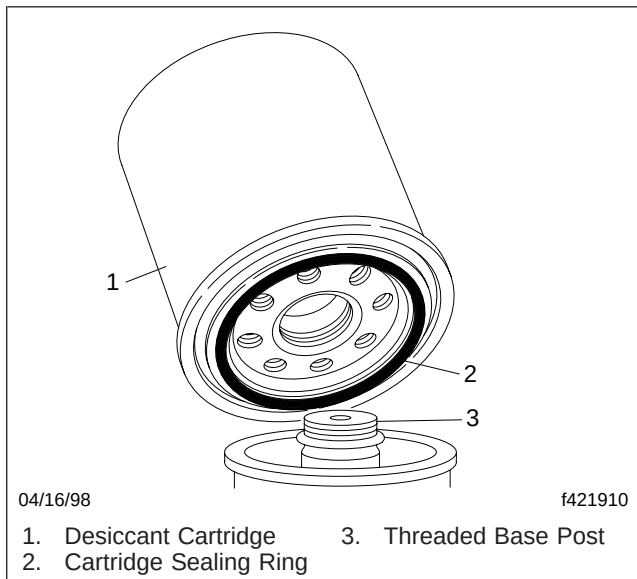

Fig. 8, Desiccant Cartridge Replacement
3. Using a strap wrench or equivalent, loosen the desiccant cartridge. See **Fig. 8**. Spin the cartridge off by hand and discard it.